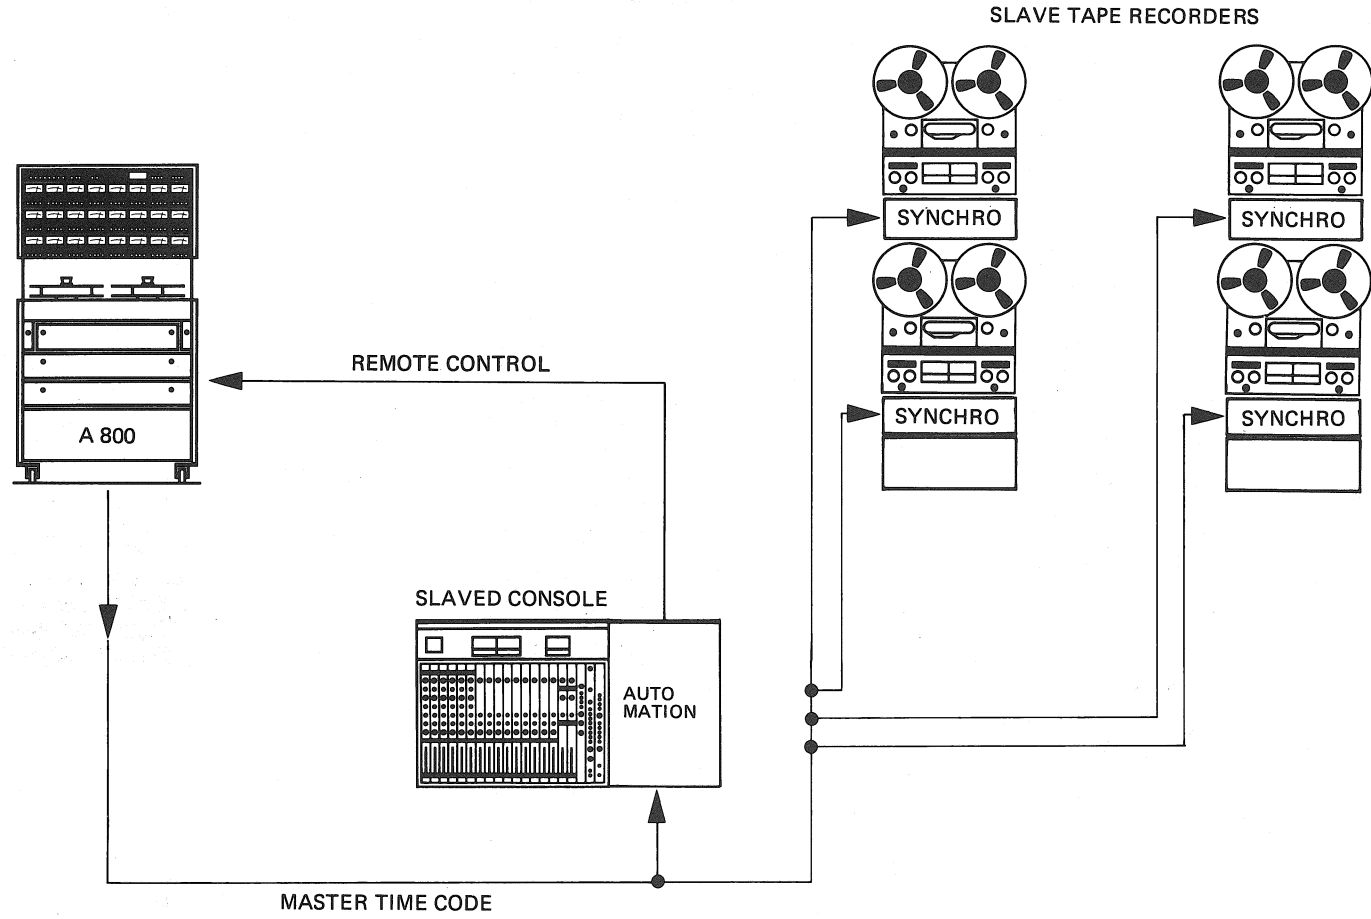

FIG 12
g) Mixing Console Automation Figure 12